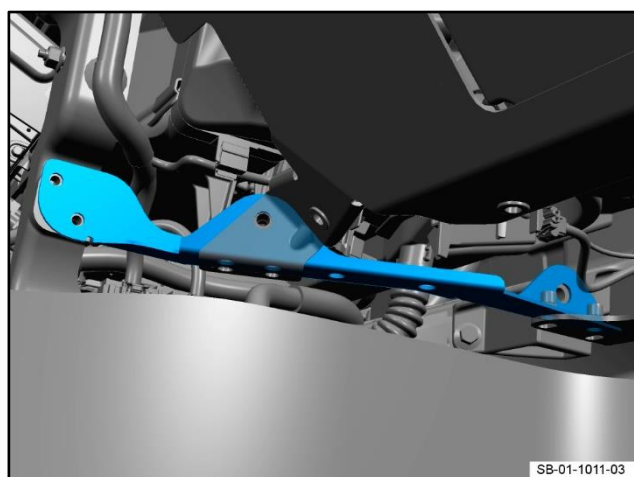

**Figure 13**
5. Remove the passenger knee airbag support bracket (refer to Figure 13).